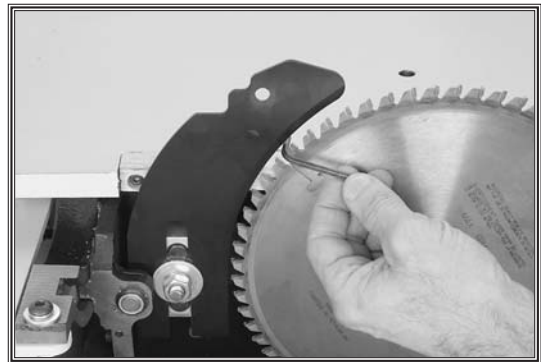

Figure 37. Adjusting the riving knife spacing.
35. Adjust the riving knife approximately $\frac{1}{8}$ " away from the main blade, using a $\frac{1}{8}$ " or 3mm hex wrench as a guide (**Figure 37**), and make sure the top of the riving knife is positioned below the blade's highest point of rotation, as shown in **Figure 52** on **Page 34**.